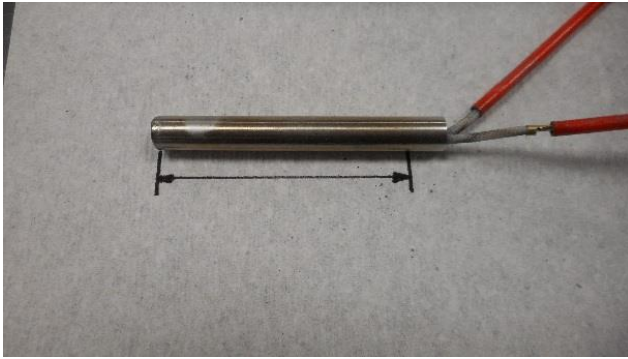

Fig 5
10. Lightly coat the entire length of the heater with copper or nickel anti-seize taking great care not to get any near the heater leads as this can create a shock hazard. See area indicated in photograph for coating anti-seize on heater element. See Fig 5.